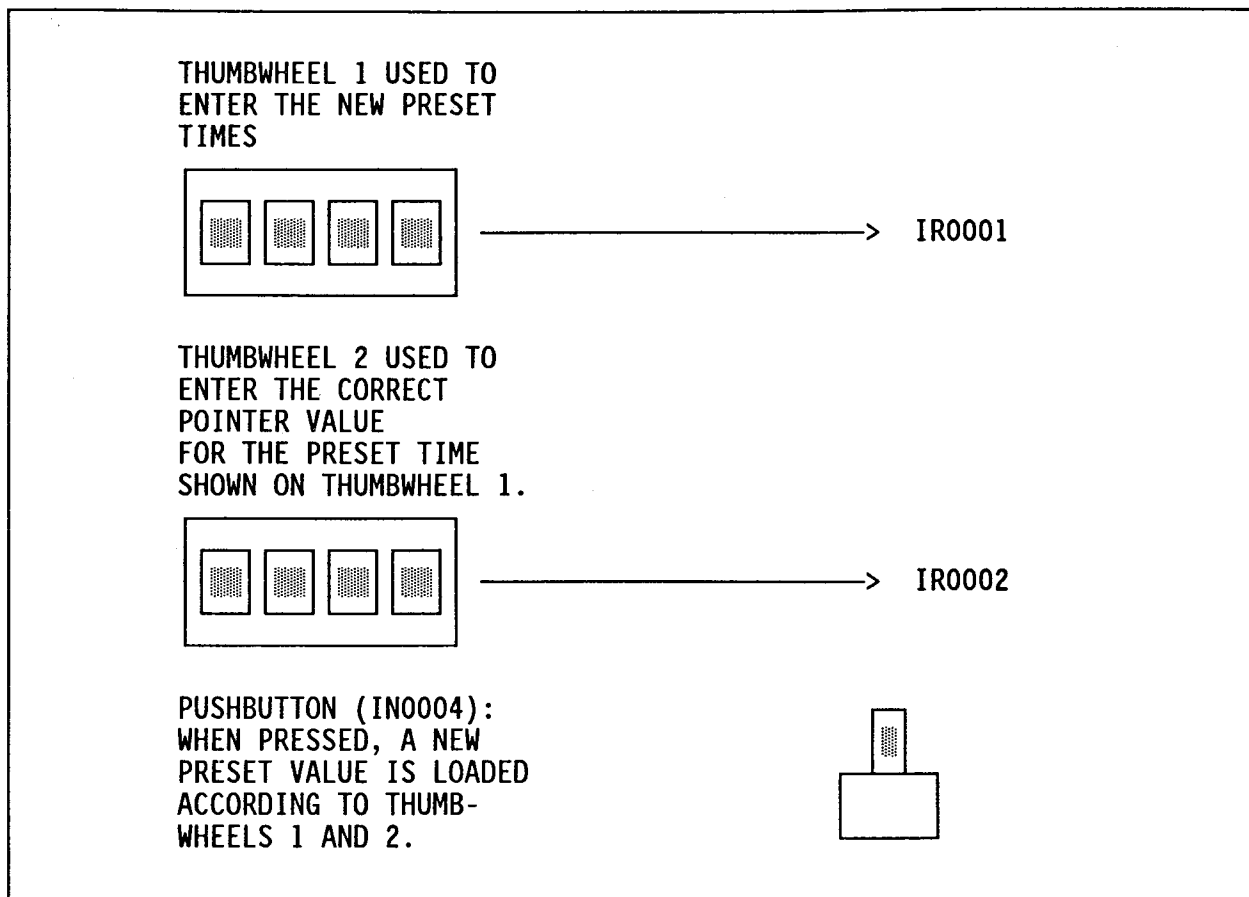
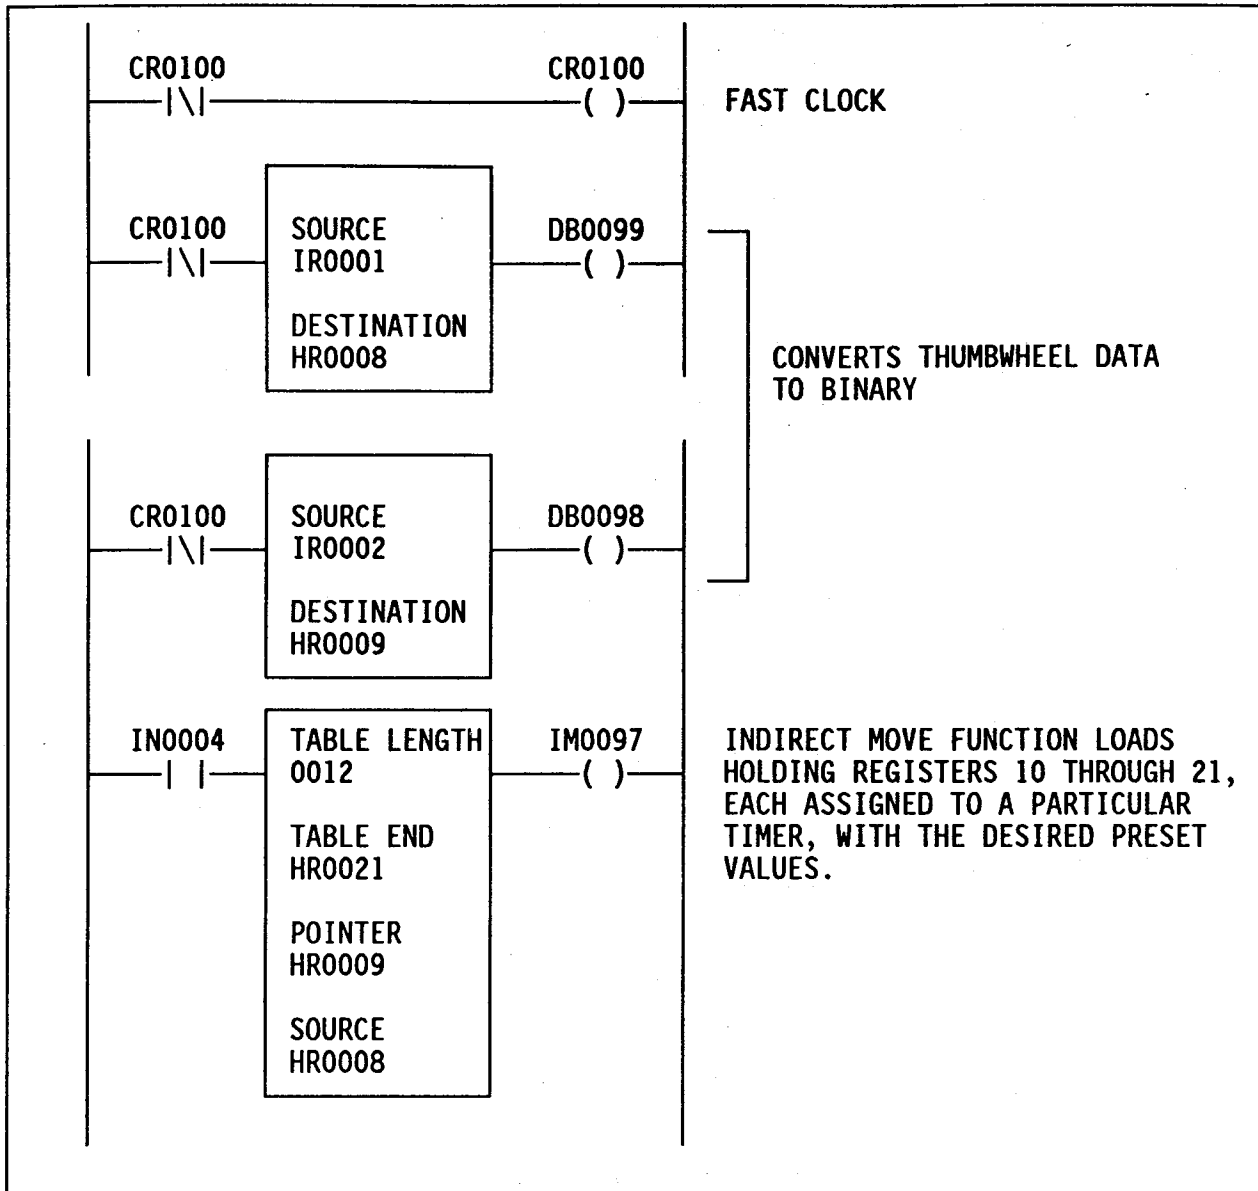

Figure 2. Process Input Data
Figure 3. Program Changing Preset Times
The Indirect Move (IM) function is useful when process variables in the system under control are changed at various times to handle new system demands. For example, assume that the system under control is a heat-treating process. The presets to a number of timers are changed each time a new item is run through it. Using the system shown in Figure 2 and the program in Figure 3, the changing of the preset times is easily accomplished.